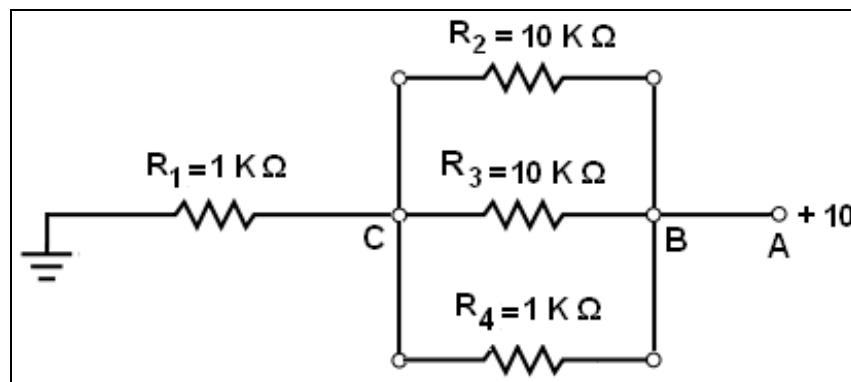

Fig. 2-1(b)
Wire the test circuit like the one shown in Fig. 2-1(b). Do this by reversing the leads from the DC power supply. With the voltmeter, measure the voltage across R1. **The measured voltage is: _____ Volt.**
- Now return the circuit to its original configuration, Fig. 2-1(a). Measure the voltage drop across the parallel network consisting of resistors R2, R3, and R4.